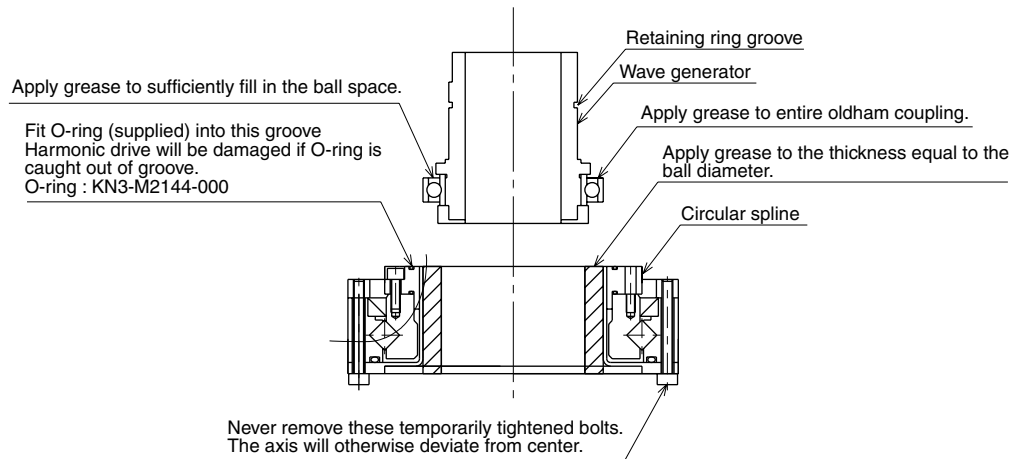

Fig. 5-51
- 13) Apply harmonic grease to the new wave generator. See Fig. 5-51 for applying grease properly.
See Fig. 5-51 for applying grease properly.
- 16) Fit an O-ring (supplied with the harmonic drive) coated with harmonic grease into the O-ring groove on the new harmonic drive. (See Fig. 5-51.)